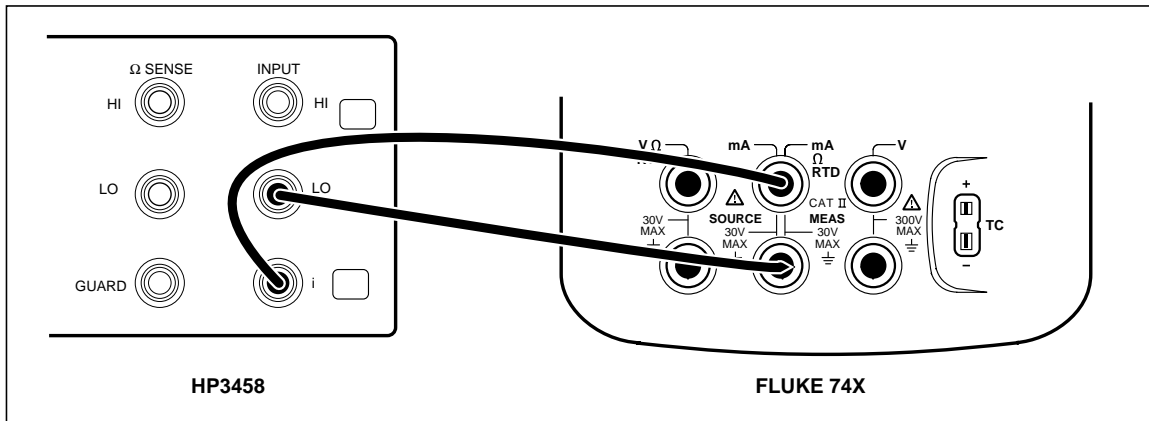

Figure 7. DC Current Source Verification Connections
1. Connect the UUT to the HP3458A as shown in Figure 7 .